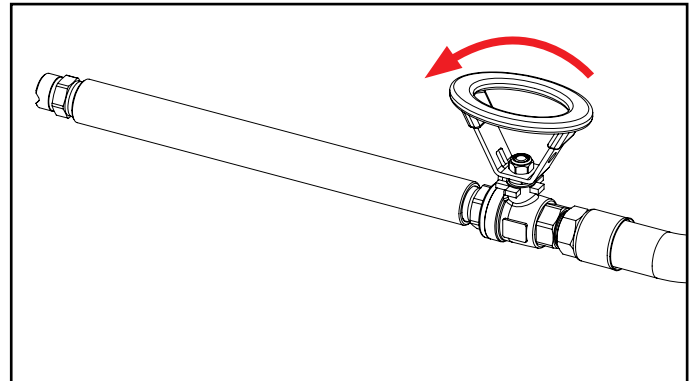

Fig. 7.2: Spray wand with open valve.
3. Open ball valve on spray wand [Fig. 7.2]